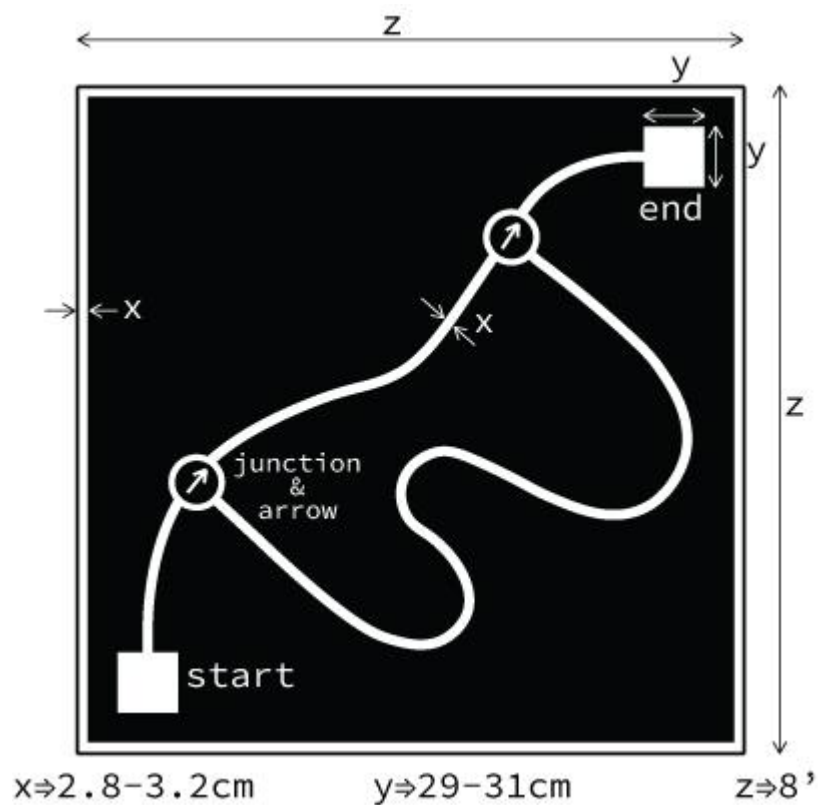

Figure 1
The line lengths and curves will not be exactly the same as Figure 1. Overall design will be similar to the figure.
- White rectangle (Figure 1 - marked as start).
- White rectangle (Figure 1 - marked as end).